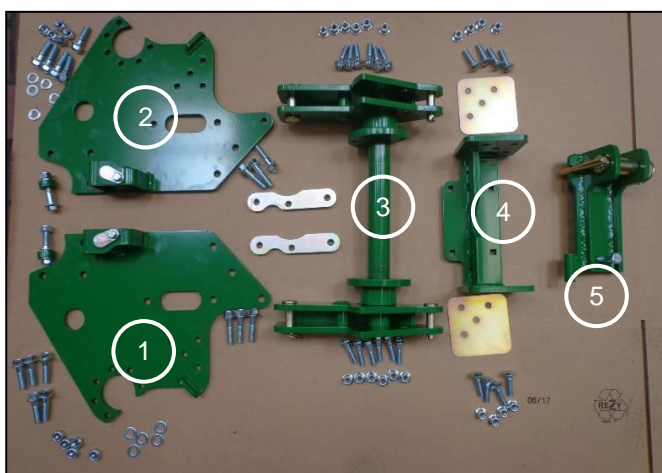

Fig. 1: Front power system – basic implement
1. Mount the side plates (3), or the John Deere front protective grille with three DIN 6921-M12x50 screws, DIN 125-13 washers, and three DIN 985-M12 self-securing nuts. The screws are in the package of the basic implement (-> Fig. 1)